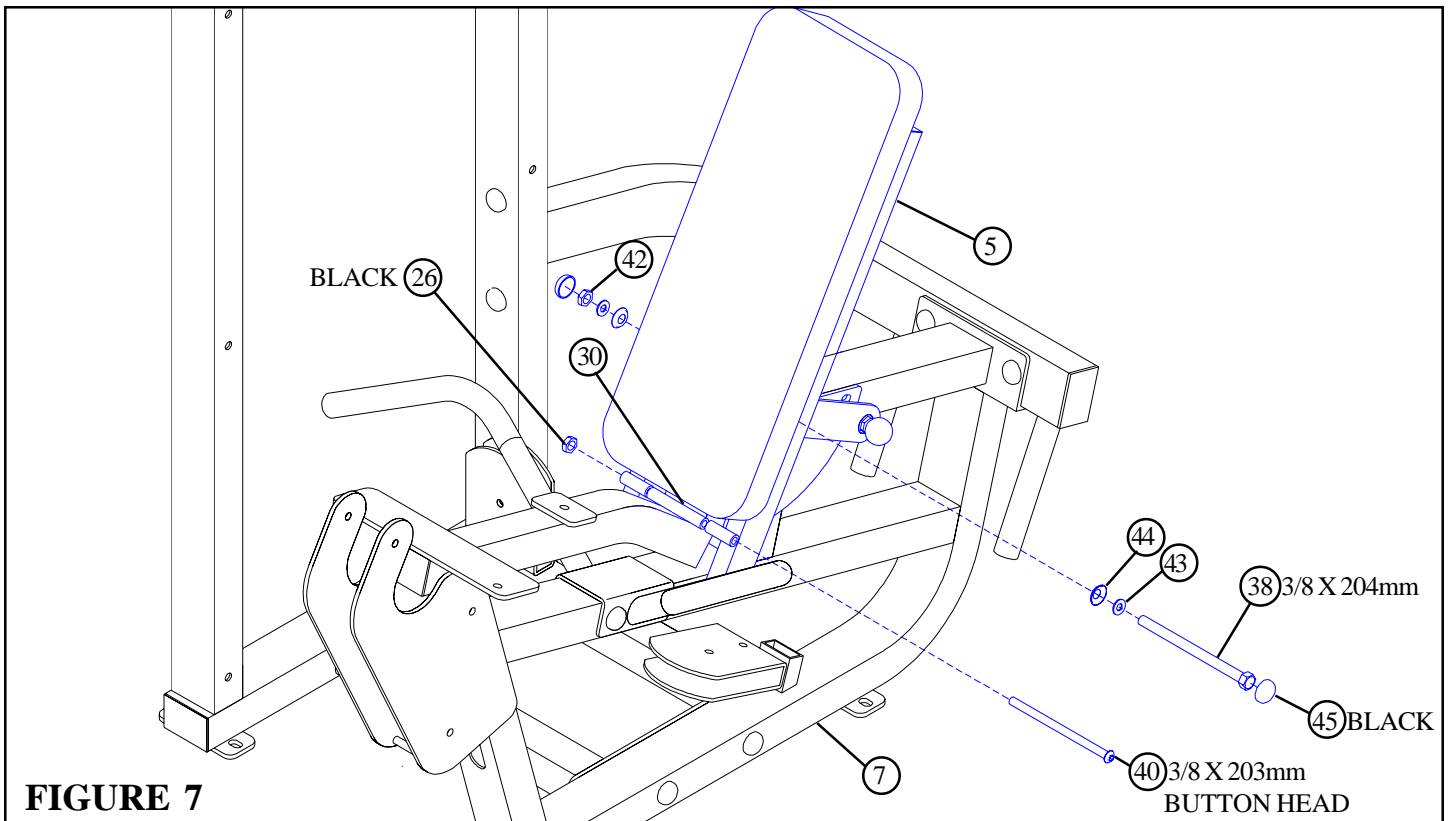

FIGURE 7
- **SECURELY** assemble one 3/8 X 4" NYLON SPACER (30) between the bushings on the LEG CURL/EXT BACK (5) using one 3/8 X 203mm BUTTON HEAD BOLT (40) and one 3/8" BLACK LOW HEIGHT LOCK NUT (26) as shown in FIGURE 7.
- **SECURELY** assemble the LEG CURL/EXT BACK (5) to the FRAME (7) using two BLACK RH CAPS (45), one 3/8 X 204mm BOLT (38), two 3/8" SAE WASHERS (43), two 3/8" RH WASHERS (44), and one 3/8" LOW HEIGHT LOCK NUT (42) as shown in FIGURE 7.